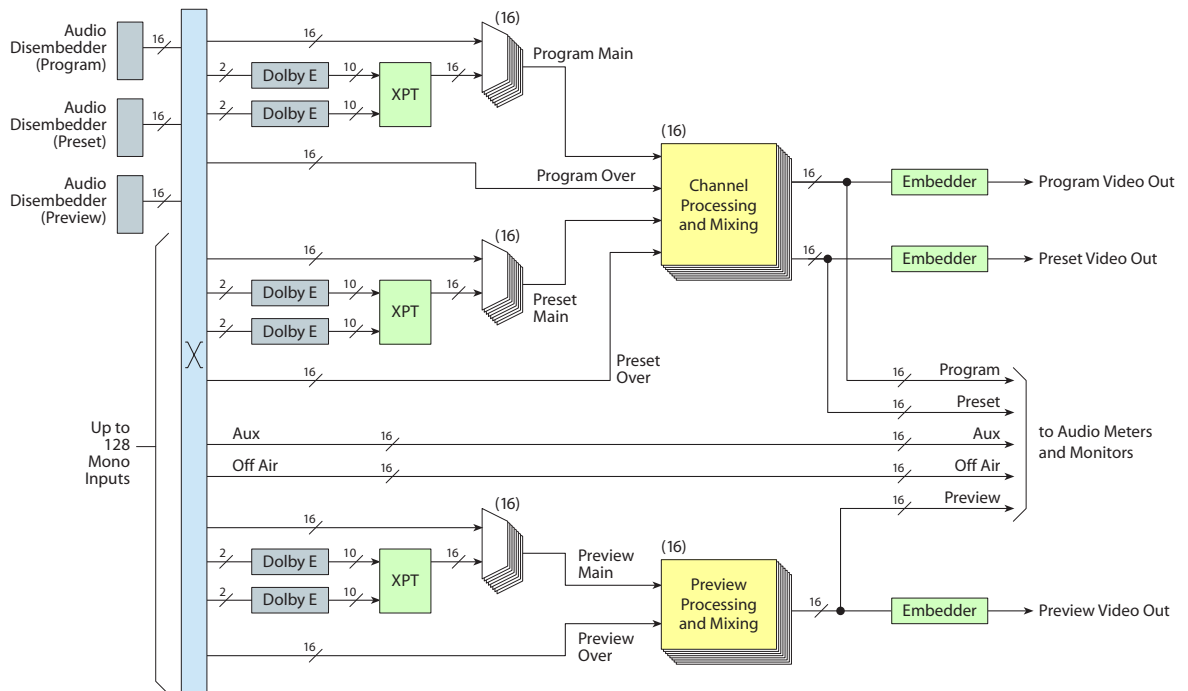

Figure 5-3. Audio Processing Section (Program, Preset, and Preview Main Sources)
- Dual Dolby decoders supporting main sources on the preview bus. (Refer to Figure 5-3.)
Figure 5-3 shows the schema for MCEs with dual Dolby decoders supporting program, preset, and preview main sources: